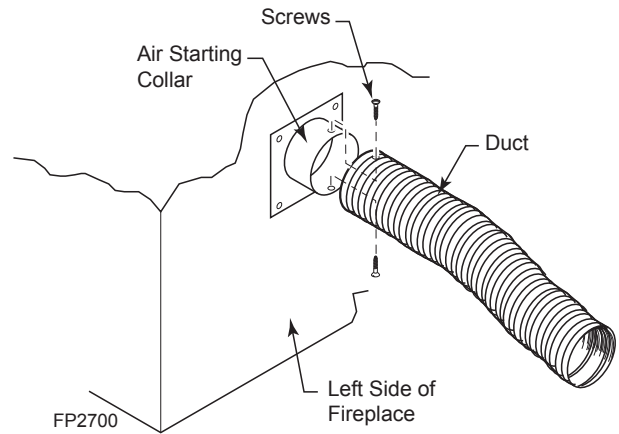

Figure 17 - Attach Outside Duct to Starting Collar
4. Attach outside duct to starting collar with duct clamp or screws. *Figure 17*
6. Select and cut a piece of duct long enough to attach to the fireplace and stick out at least 3" beyond the face of the wall to which the AK-4 inlet air vent will be attached. *Figure 17*